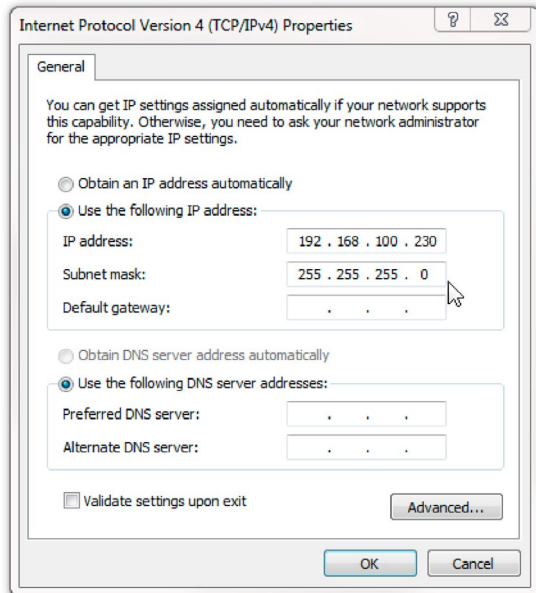

Fig. 50: Static IP address
5. Click the radio button “Use the following IP address” and set an own static IP address (Fig. 50).
**Example (Fig. 50):**